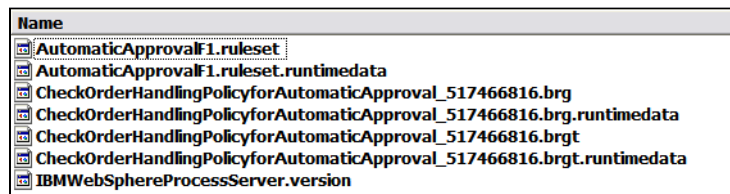

Figure 10-92 Exporting business rules: Resulting content
- ▶ The zip file contains the rule definitions and the runtime data (Figure 10-92).